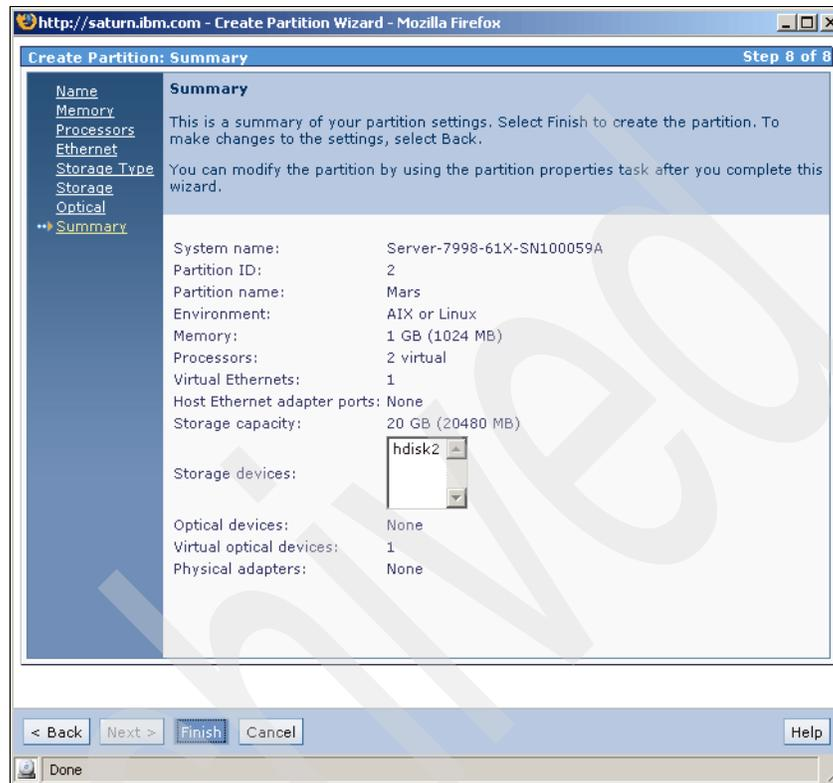

Figure 4-25 Create partition - summary
14. Verify your setting and click **Finish** to create a partition with the settings you defined. See Figure 4-25.